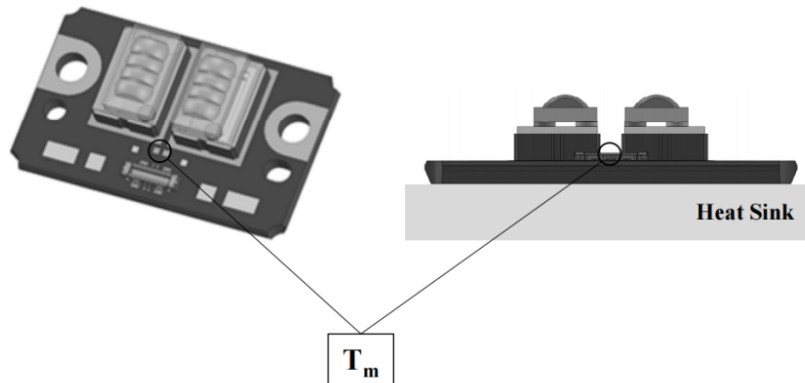

Fig.1 Schematic diagram of the measurement system
*1) Refer to Fig. 1
(3) Initial Electrical/Optical Characteristics